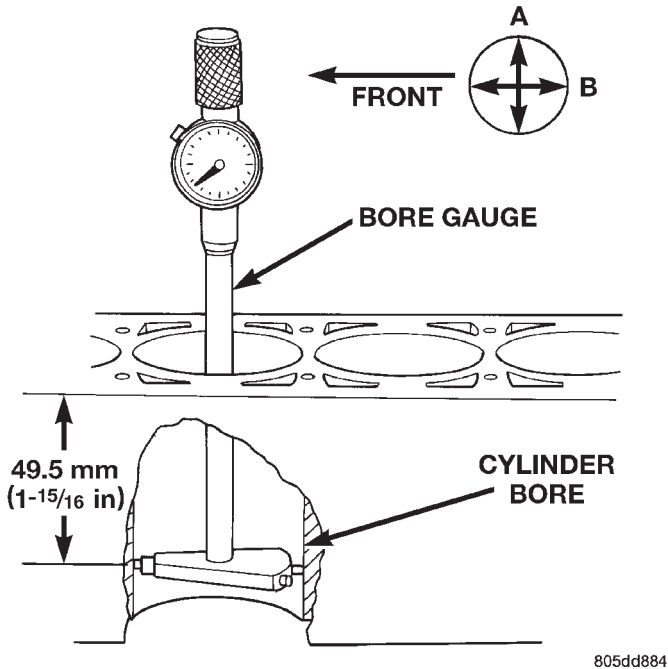

Fig. 6 Bore Gauge
(2) Measure the inside diameter of the cylinder bore at a point 49.5 mm (1-15/16 inches) below top of bore. Start perpendicular (across or at 90 degrees) to the axis of the crankshaft at point A and then take an additional bore reading 90 degrees to that at point B (Fig. 6).
(3) The coated pistons will be serviced with the piston pin and connecting rod pre-assembled. **The coated piston connecting rod assembly can be used to service previous built engines and MUST be replaced as complete sets.** Tin coated pistons should not be used as replacements for coated pistons.